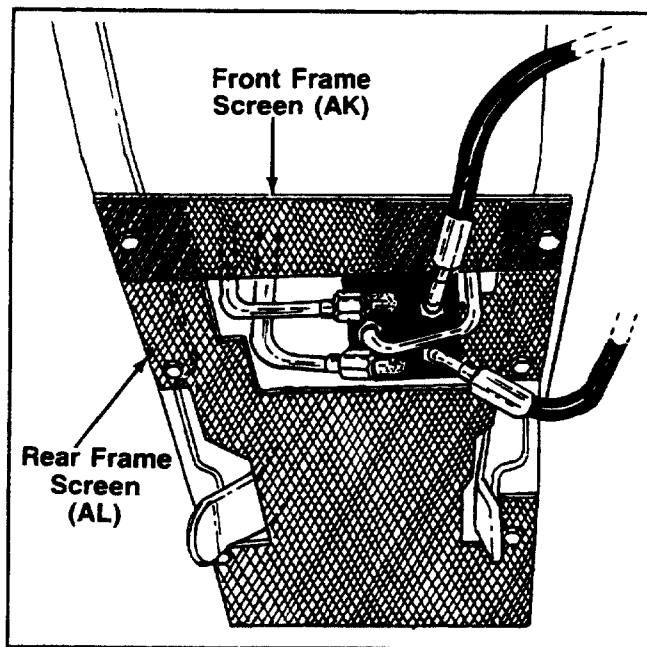

FIGURE 32.
38. Install the two frame screens (AK and AL) using six bolts you removed in disassembly section, step 12. See figure 32.
39. Install the rear frame screen (AL) using four hex bolts first, then install the front frame screen (AK) with two remaining bolts. See figure 32.